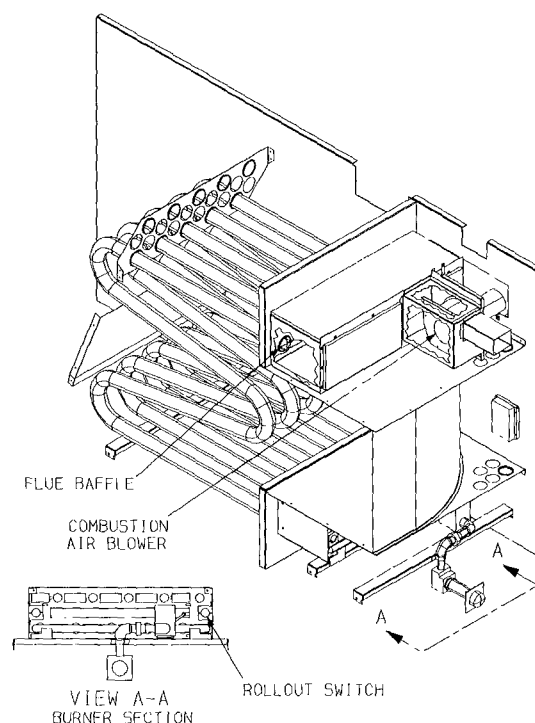

Fig. 22 — Gas Section Detail, 48LJD (Low-Heat)
GAS HEAT SECTION—Access to the gas heat section is through the panel labelled **HEAT SECTION** on the left side of the unit (when facing condenser coil). See Fig. 22 and 23.
FLUE GAS PASSAGEWAYS—The flue collector box and heat exchanger cells may be inspected by removing the combustion air blower(s), flue box cover, and main burner assembly. See Fig. 22 and 23 for proper removal sequence. If cleaning is required, remove heat exchanger baffles through the flue box and clean all parts with a wire brush. When replacing heat exchanger baffles, be sure to replace screw through clamp on baffle retaining rod into the vestibule plate.
4. Disconnect gas connection(s) from between gas valve(s) and field-supplied piping. See Fig. 22 and 23.